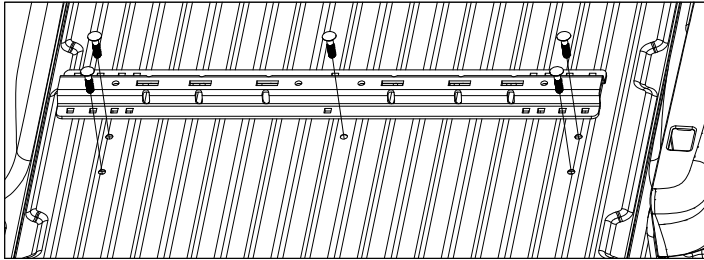
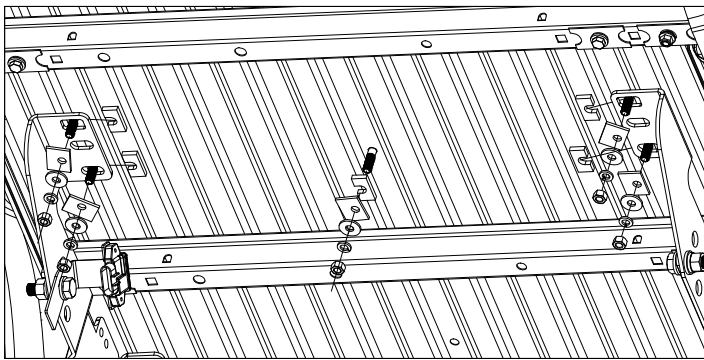

Figure C1: View looking into truck bed from rear of truck.
Figure C2: View under bed looking up toward cab. (Frame not shown)
- 1. Install the rear mounting rail.** Re-position the rear mounting rail over the drilled 9/16" holes in the bed. Install a 1/2" Carriage bolt through the mounting rail into each of the five drilled holes, as shown in figure C1. Under the bed install an offset square washer, 1/2" flat washers, 1/2" lock washers and 1/2" finish nuts on each of the carriage bolts, see figure C2. Place the U-shaped spacers. Hand tighten each nut.